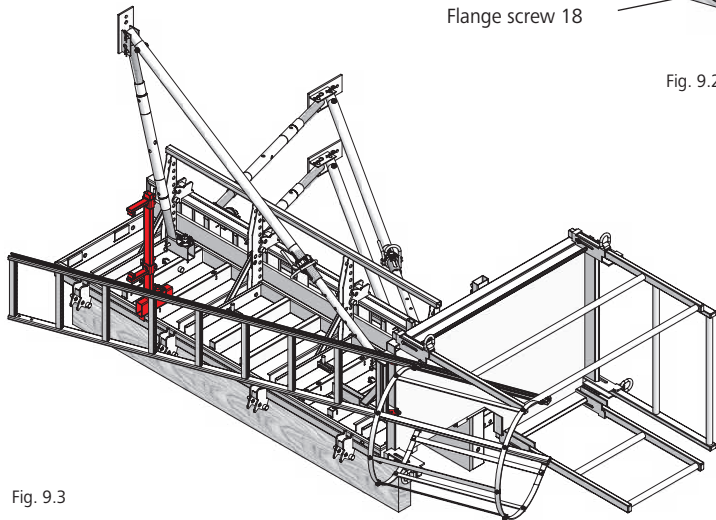

Fig. 9.3
5. Screw the clamping angle firmly to the ladder fixture (Figures 9.3 and 9.5).